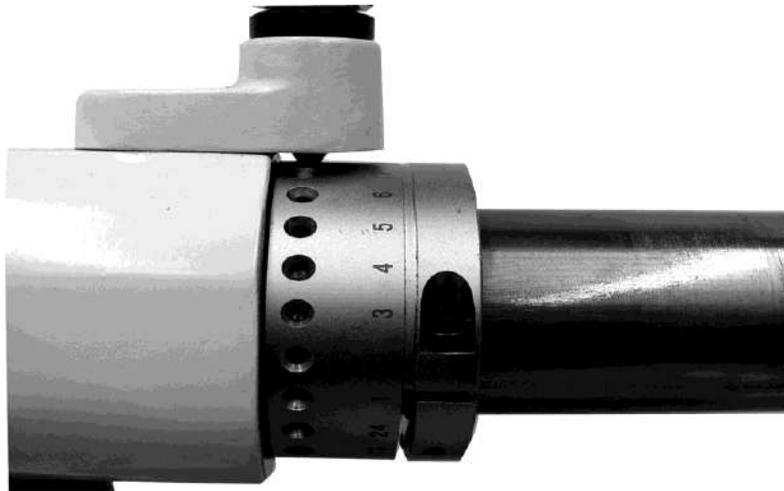

Fig.10
- (1) Reset the end mill grinding attachment to the correct position.
- (2) Pull the sleeve all the way back, then adjust one of the flutes on the the tooth rest
- (3) Push the index ring forward. Insert the spring locating pin into the index plate according to the quantity of blades. Then remove the tooth rest, as Figure 10.